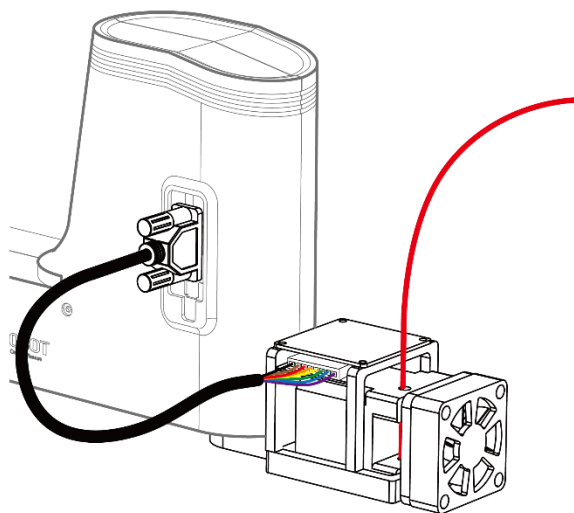

Figure 3.5 Connect to Forearm I/O interface
- Step 2** Connect the connector of the 3D printing kit to the Forearm I/O interface, as shown in Figure 3.5.